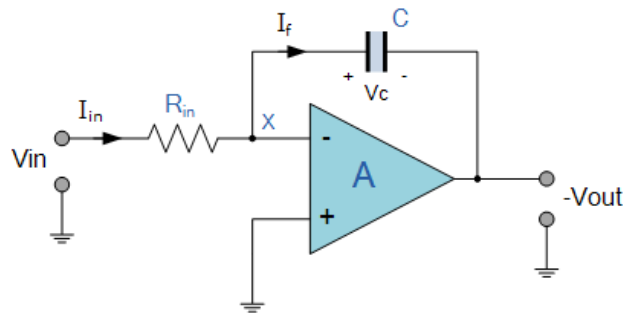

Figure 4 - Op-Amp Integrator Circuit
5.....	Figure 4 - Op-Amp Integrator Circuit